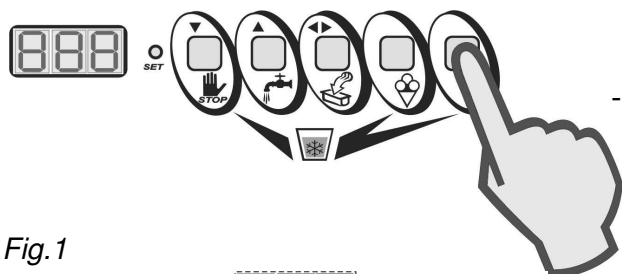

Fig.1
- Press the SEMIAUTOMATICO (SEMI-AUTOMATIC) key to select the semi-automatic batch freezing cycle with consistency control (Fig. 1).